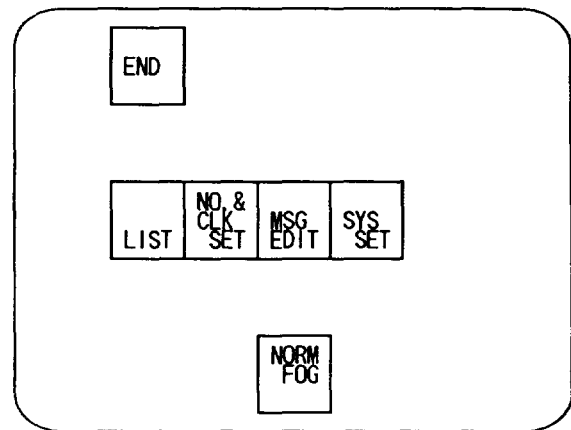
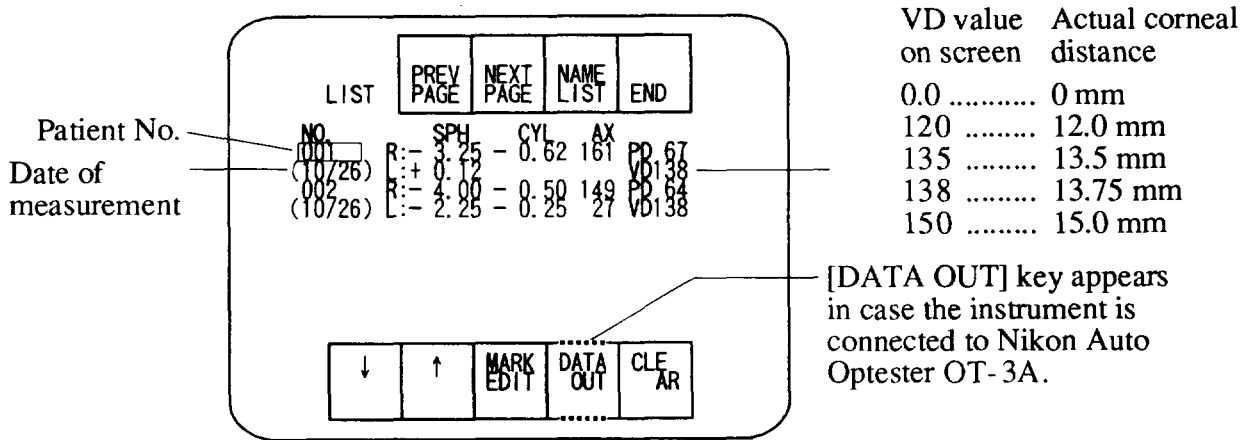
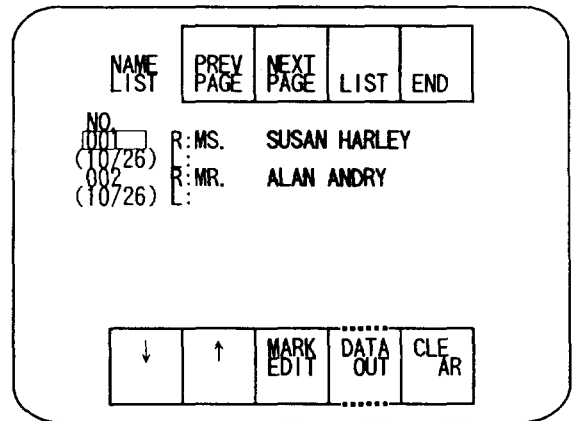
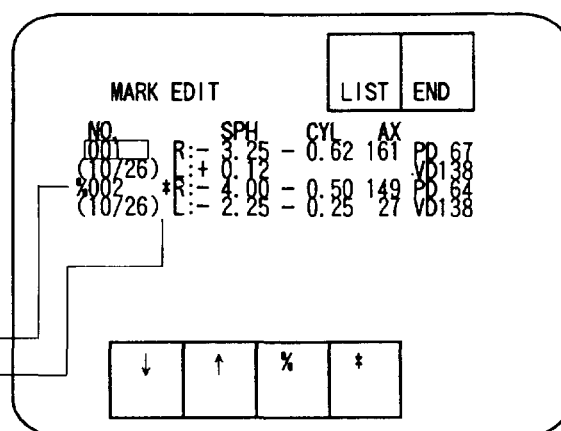

Figure 5-6 Menu Screen
Figure 5-7 List Screen
Figure 5-8 NAME LIST Screen
Figure 5-11 MARK EDIT Screen
Press the [MENU] key on the measurement screen (see pages 9 through 14) to display the menu screen (see Figure 5-6).
Press the [LIST] key on the menu screen (see page 27 and Figure 5-6) to display the LIST screen (see Figure 5-7).
- Press the [NAME LIST] key to display the NAME LIST screen. On this screen, the entered patient names and other information are displayed instead of the measured values (see Figure 5-8).
- ① Press the [PRINT] key on the LIST screen (see page 28 and Figure 5-7) or the NAME LIST screen (see page 28 and Figure 5-8) to display the LIST PRINT screen (see Figure 5-9).
- ② Press the [↓] or [↑] key to move the cursor to the data you want to print.
- ① Press the $\left[\begin{array}{c} \text{MARK} \\ \text{EDIT} \end{array} \right]$ key on the LIST screen (see page 28 and Figure 5-7) or the NAME LIST screen (see page 28 and Figure 5-8) to display the MARK EDIT screen (see Figure 5-11).
- ② Press the $[\downarrow]$ or $[\uparrow]$ key to move the cursor to the line you want to edit.
- ① Press the $\left[\begin{matrix} \text{DATA} \\ \text{OUT} \end{matrix} \right]$ key on the LIST screen (see page 28 and Figure 5-7) or the NAME LIST screen (see page 28 and Figure 5-8) to display the LIST DATA OUTPUT screen (see Figure 5-12).
- ② Press the $[\downarrow]$ or $[\uparrow]$ key to move the cursor to the data you want to send.
- ① Press the [CLEAR] key on the LIST screen (see page 28 and Figure 5-7) or the NAME LIST screen (see page 28 and Figure 5-8) to display the LIST CLEAR screen (see Figure 5-13).
- ② Press the [↓] or [↑] key to move the cursor to the patient No. you want to clear.
- ① Press the [NO.&CLK] key on the menu screen (see page 27 and Figure 5-6).